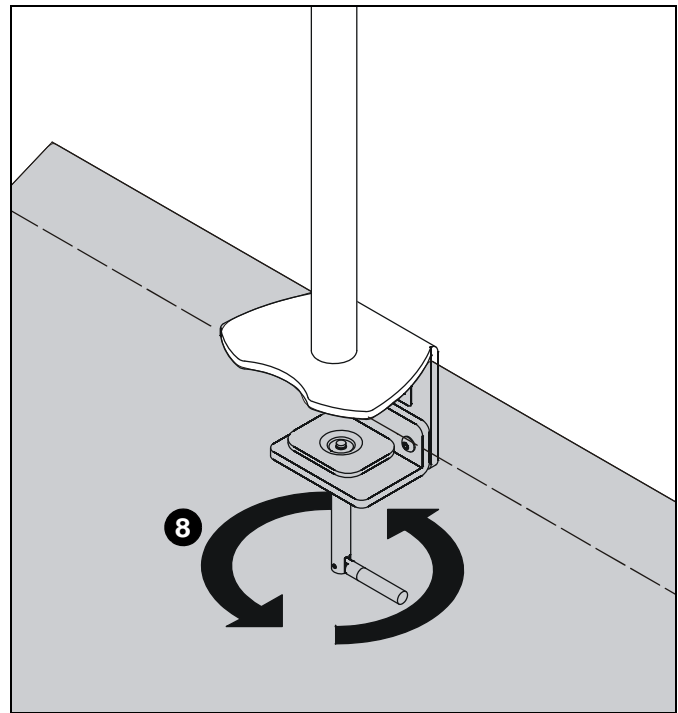

Figure 3
8. Turn clamp screw until the clamp is secured to the desk as tightly as possible. (See Figure 3)